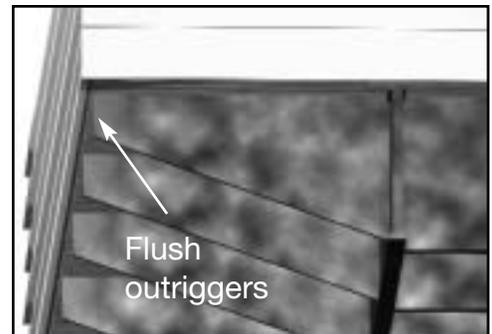

Fig. 2
2. If the outriggers and hitch plate are both flush, all StoneSkirt columns should be installed outside the home. (Fig. 2 & 4)
3. If the outriggers are flush and the hitch plate is recessed, install all StoneSkirt columns outside the the home. (Fig. 2 & 3)